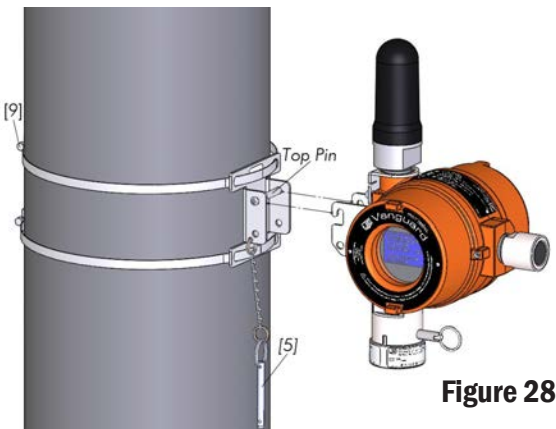

Figure 28
3. Wrap the clamp [8] around the mounting structure and insert the end under the worm drive screw [9] (see Figure 28).
6. Mount device by hooking onto top pin of mounting bracket plate (see Figure 28).